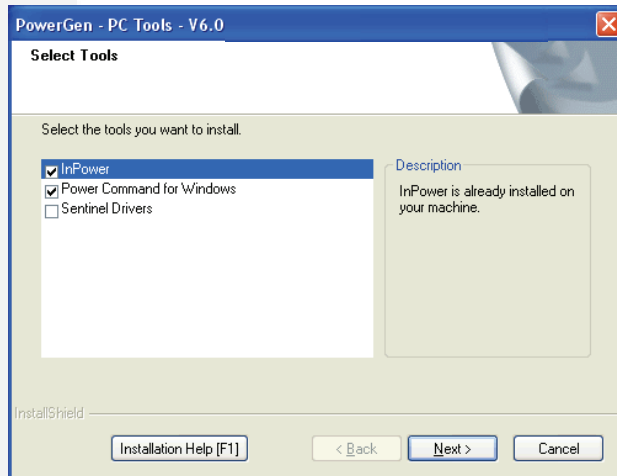

FIGURE 2-4. INSTALL PCW
5. At the *Select Tools* installation window, click inside the checkbox next to PowerCommand for Windows, then click on the **Next** button to proceed with the installation. Figure 2-4.